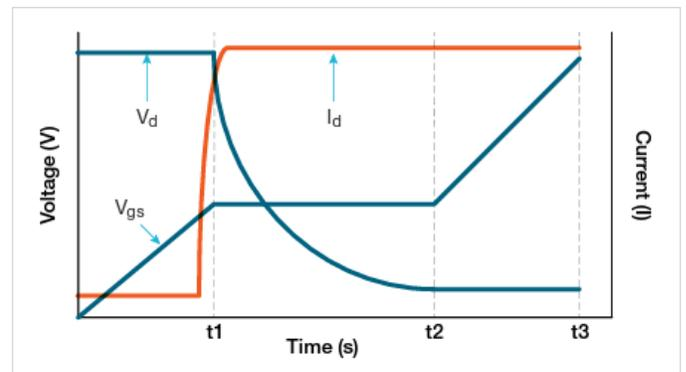

Figure 3:  $V_{gs}$ ,  $V_d$ , and  $I_d$  vs. time of MOSFET.
**Figure 3** shows typical gate and drain waveforms as a function of time. As current is forced to the gate,  $V_{gs}$  increases until it reaches the threshold voltage. At this point, the drain current ( $I_d$ ) begins to flow. When  $C_{gs}$  is charged up at time  $t1$ ,  $I_d$  stays constant and the drain voltage ( $V_d$ ) decreases.  $V_{gs}$  remains constant until it reaches the end of the plateau. Once  $C_{gd}$  is charged at time  $t2$ , the gate-source voltage ( $V_{gs}$ ) starts to increase again until it reaches the specified maximum gate voltage ( $V_{gsMax}$ ).